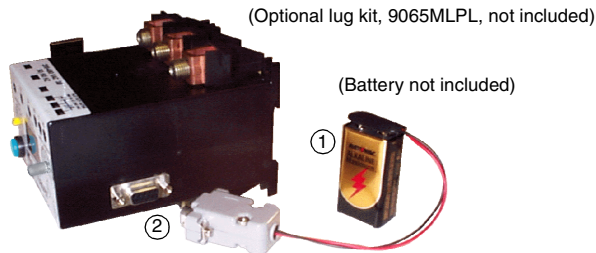

Figure 5: Connecting the 9 V Battery Adapter
- 9 V battery adapter: Apply 9 V $\overline{\text{---}}$ to the adapter supplied with the SSOLR. See Figure 5.